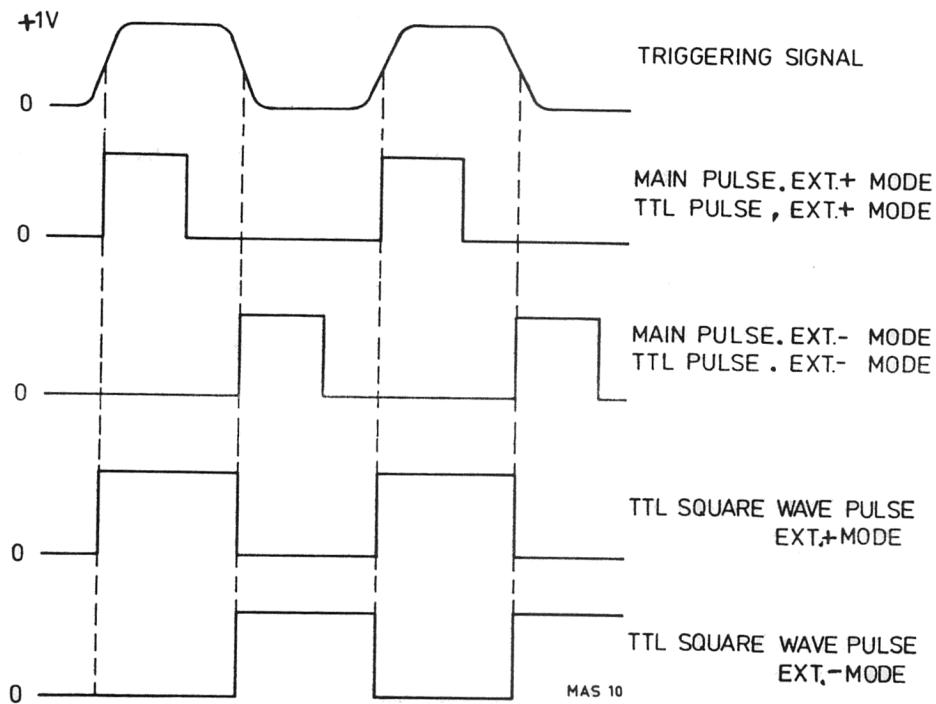

Fig. VI-7 External triggering PM 5705
- Select triggering at positive or negative slope of signal by setting switch REPETITION TIME to EXT+ or EXT-. Set duration to 10 μ s. Refer to fig. VI-7.
- Observe output pulses having same repetition time as the triggering signal but a pulse duration as set with the DURATION controls. Fig. VI-7.
- Observe an output signal similar to fig. VI-7.
- Note that repetition time and duration are determined by the triggering signal. Refer to fig. VI-7.